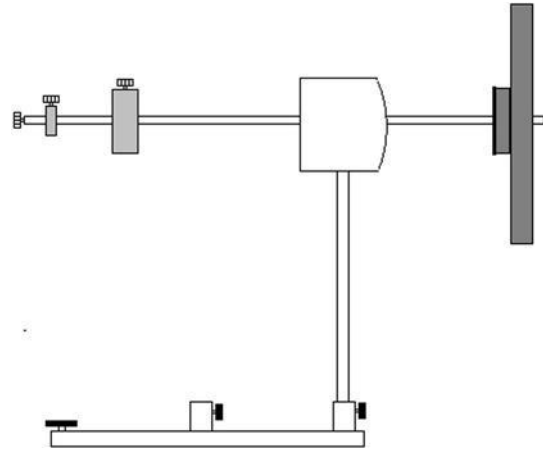

Fig. 3: Nutation
- Set up the gyroscope as shown in Fig. 3 and balance it.